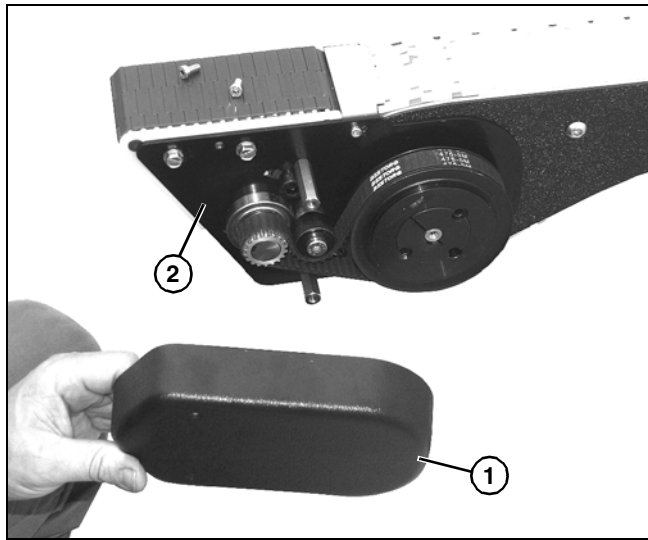

Figure 89
2. Remove power transfer cover (Figure 89, item 1) from power transfer assembly (Figure 89, item 2).